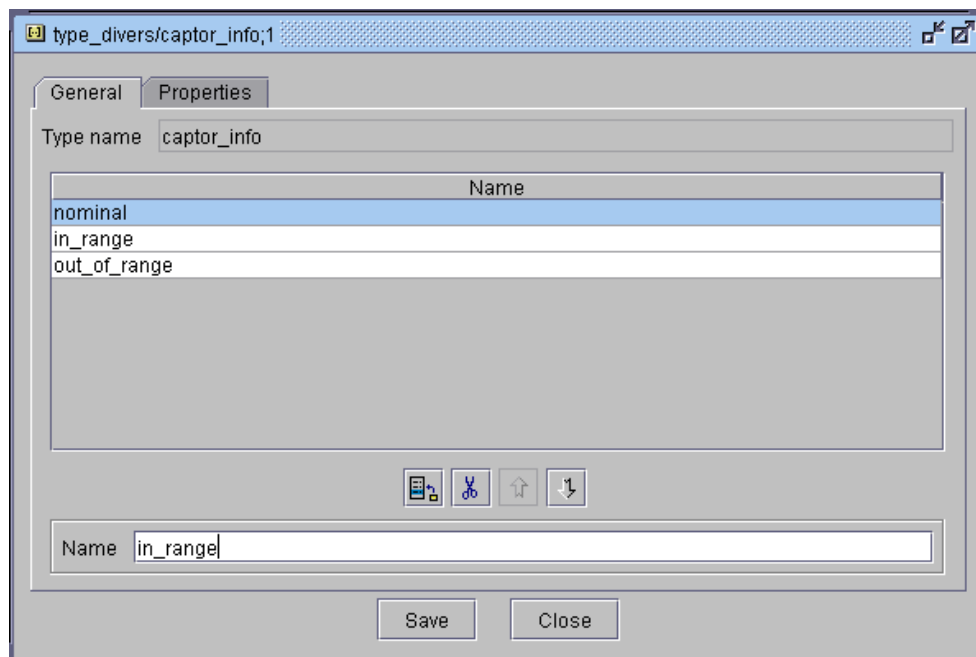

Figure 108 : Create enumerate type
- ◆ In the *Type editor* window (Figure 108) and in the *Type name* field, type the name.
When the reading is done, the type edition window is displayed (Figure 108).